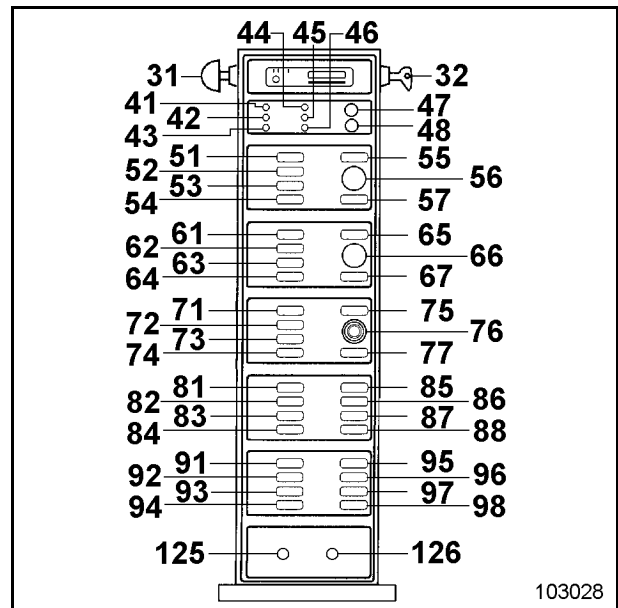

Fig. 2-88:
**In an emergency apply parking brake with switch (82, Fig. 2-88:)**